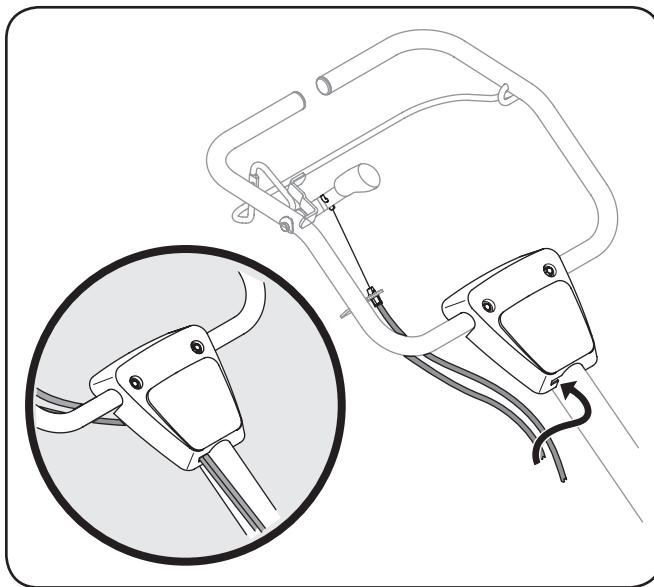

Figure 3-3
5. Clip the cables into the cable guides located on the handle assembly panel as seen in Figure 3-3.